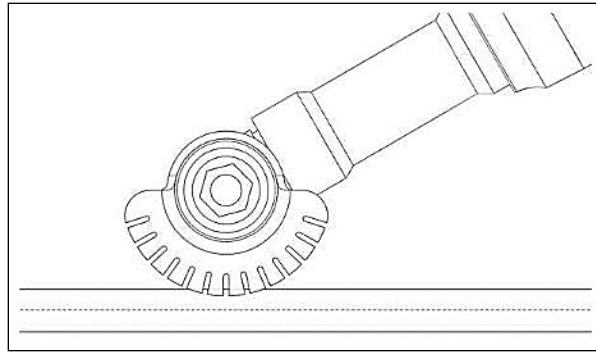

Figure 3. Initial Thick Coating Engagement
- 3.2.1. Place the cutting edge of the GFR-Disc/Blade above the area of the thick elastomeric coating to be cut/scored. Fully depress the lever on the pneumatic oscillating saw. Once the saw reaches operating speed, slowly plunge the GFR-Disc/Blade into the thick coating until approximately one quarter of the depth of the teeth on the GFR-Disc/Blade is engaged in the material to cut/scored. See **Figure 3**.